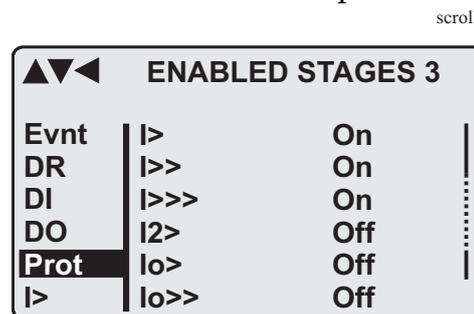

Figure 2.2.1-1 Example of scroll indication
3. Push the ENTER key to confirm the selected submenu. If there are more than six items in the selected submenu, a black line appears to the right side of the display (Figure 2.2.1-1). It is then possible to scroll down in the submenu.